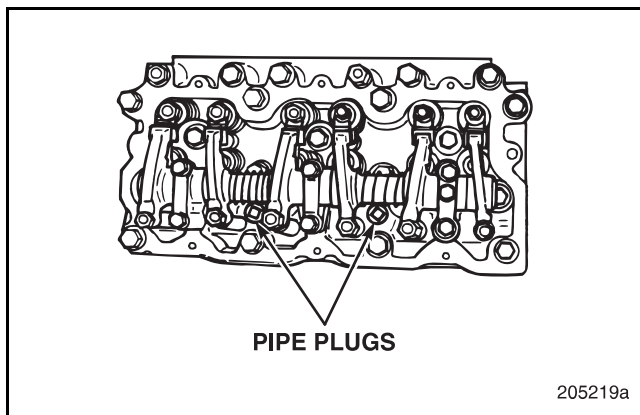

Figure 9-3 — Cylinder Head Pipe Plugs (3/4-Inch NPT)
1. Look for coolant stains around the 3/4-inch NPT pipe plugs on top of the cylinder heads. Check plug torque. Plug torque specification is 28 lb-ft (38 N•m). Refer to Figure 9-3.